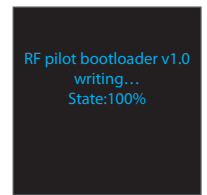

fig. 7
8. Bootloader is activated during the start of RF pilot program for checking the external memory content. If complete and checked firmware is not included, the existing program RF pilot is started. If correct data is found in external memory, bootloader starts rewriting the processor main memory (figure 7). Note: If power failure occurs during the process, the bootloader will be started upon repeated battery insertion resulting in rewriting the processor main memory! The process is permanently repeated until the processor main memory is successfully rewritten!